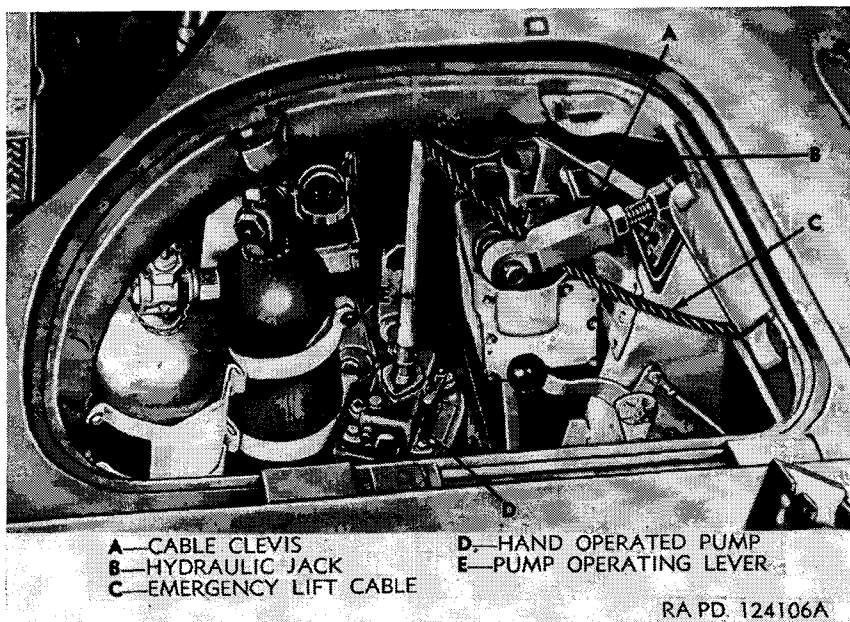

Figure 37. Emergency-lift hand-operated pump and emergency-lift hydraulic jack.
a. Position the pump assembly, with mounting blocks attached, on the subfloor to the left of the assistant-driver's seat (fig. 37). Locate the pump as close to the assistant-driver's seat as possible, and in such a position that the assistant-driver can easily operate it by moving the operating lever with his left hand.
b. Attach the cable-end connector (fig. 37) to the inner-sheave support by installing the cable-connector pin and securing it to the support with a cap screw and lock washer.